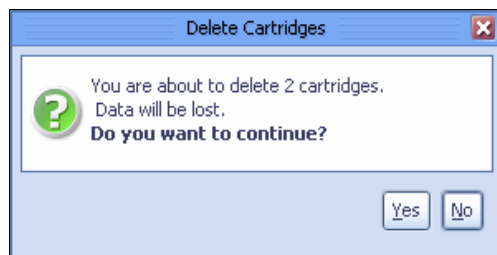

Figure 10-41 Delete cartridge confirmation window
4. From the menu bar, select **VT** → **VT** → **Delete Cartridges**. A confirmation message box opens (Figure 10-41).